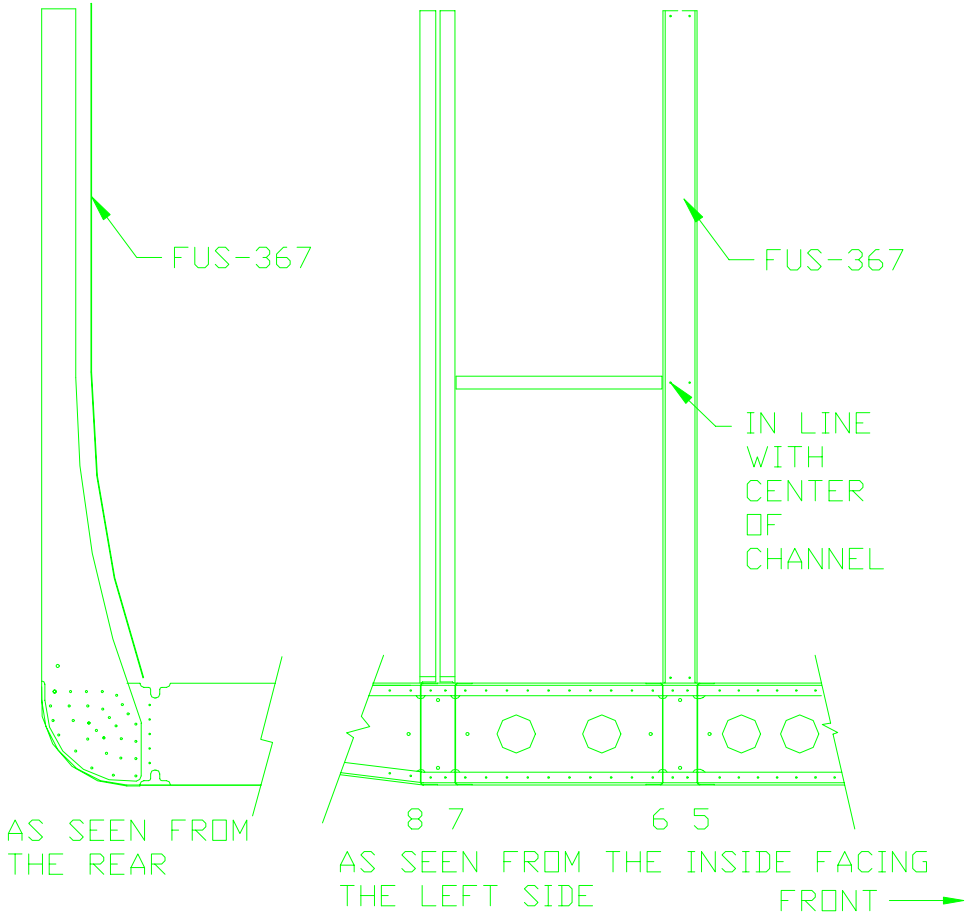

FIGURE 10
45) Position a FUS-367 strap on the inside flanges of the two FUS-346's uprights at station 5 & 6. Drill #40 holes at each end into the FUS-346 flanges and two #40 holes in line with the center of the channel. Figure 10. NOTE: (You may like to hide your fuel line under 367 strap before you rivet it)